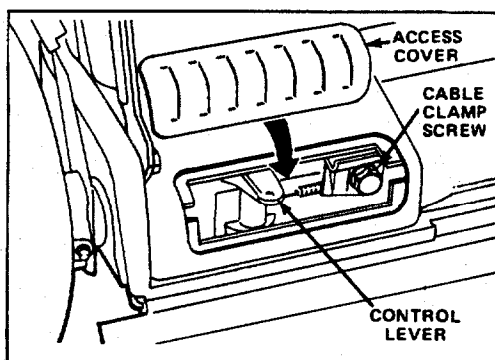

Figure 30
2. Remove access cover from rear of mower housing (Fig. 30).
4. ADJUSTMENT (Fig. 30)—Loosen cable clamp screw until cable conduit slides. Push shift lever toward cable clamp screw. Push cable to the right to remove slack and tighten clamp screw.